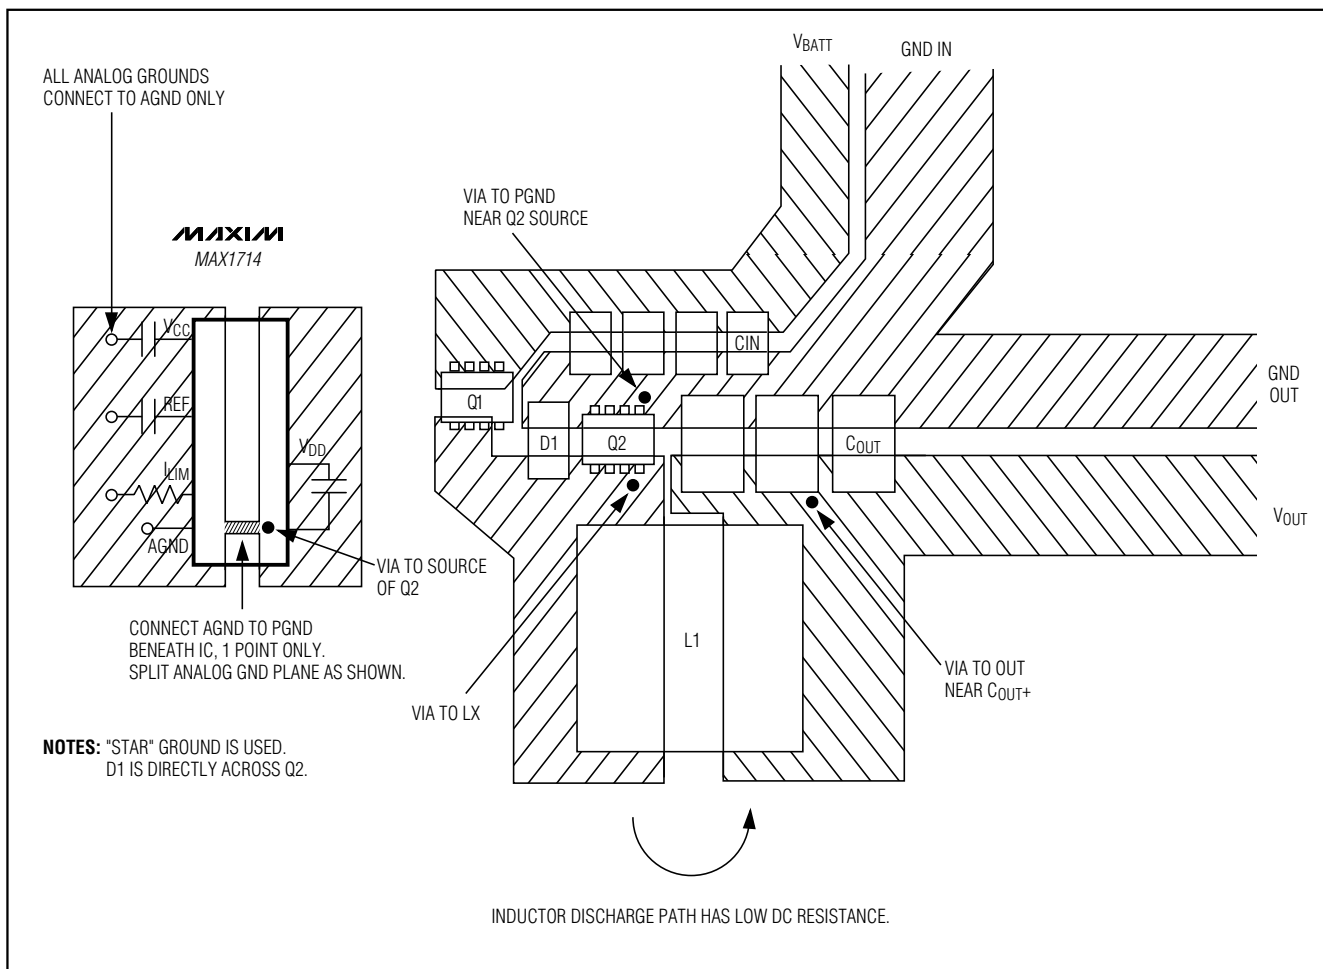

Figure 11. Power-Stage PC Board Layout Example
Careful PC board layout is critical to achieving low switching losses and clean, stable operation. The switching power stage requires particular attention (Figure 11). If possible, mount all of the power components on the top side of the board with their ground terminals flush against one another. Follow these guidelines for good PC board layout:
- 4) Make the DC-DC controller ground connections as shown in Figure 11. This diagram can be viewed as having three separate ground planes: output ground, where all the high-power components go; the PGND plane, where the PGND pin and V_{DD} bypass capacitor go; and an analog AGND plane, where sensitive analog components go. The analog ground plane and PGND plane must meet only at a single point directly beneath the IC. For the MAX1714B, this point should be the GND pin. These two planes are then connected to the high-power output ground with a short connection from V_{DD} cap/PGND to the source of the low-side MOSFET, Q2 (the middle of the star ground). This point must also be very close to the output capacitor ground terminal.